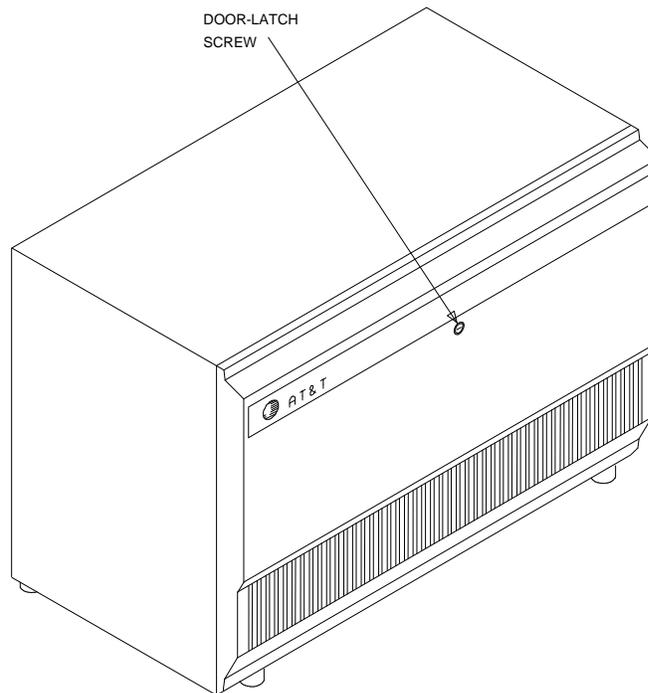

Figure 2-16. Location of Door-Latch Screw for G3i V4 Cabinet
1. Use a flat blade screwdriver to turn the door-latch screw counterclockwise one quarter turn to release door (see Figure 2-16).